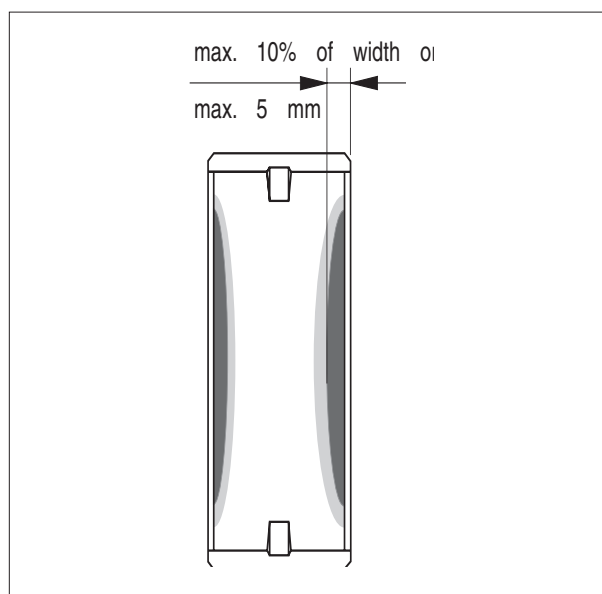

Fig. 11.
**Valuation:** If the limits shown in fig. 11 and 12 are exceeded the bearing shells must be exchanged.